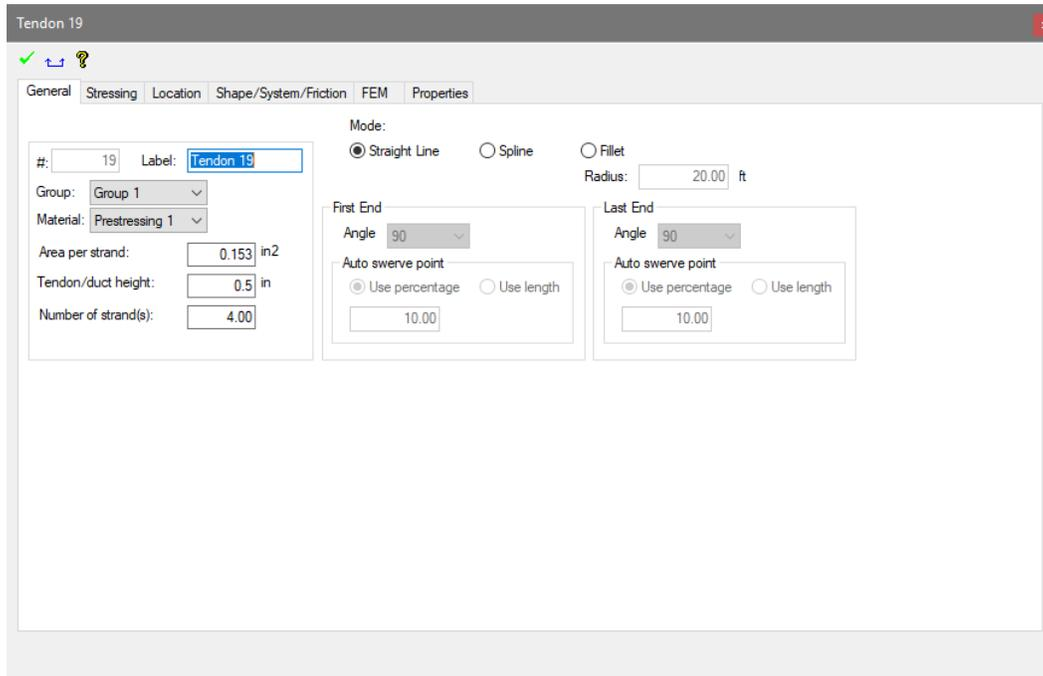

Figure 8-15
- At the top of the structure there are two tendons outside of the structure. We need to delete these tendons and replace them with a new tendon. First, we want to check the number of strands in this tendon so that we can have the same number of strands in our new tendon we will draw. Double click on one of the two tendons to bring up its properties window shown in **FIGURE 8-15**.
- Double-click on the second tendon from the bottom to open its properties window. The user should see a window similar to **FIGURE 8-15**.